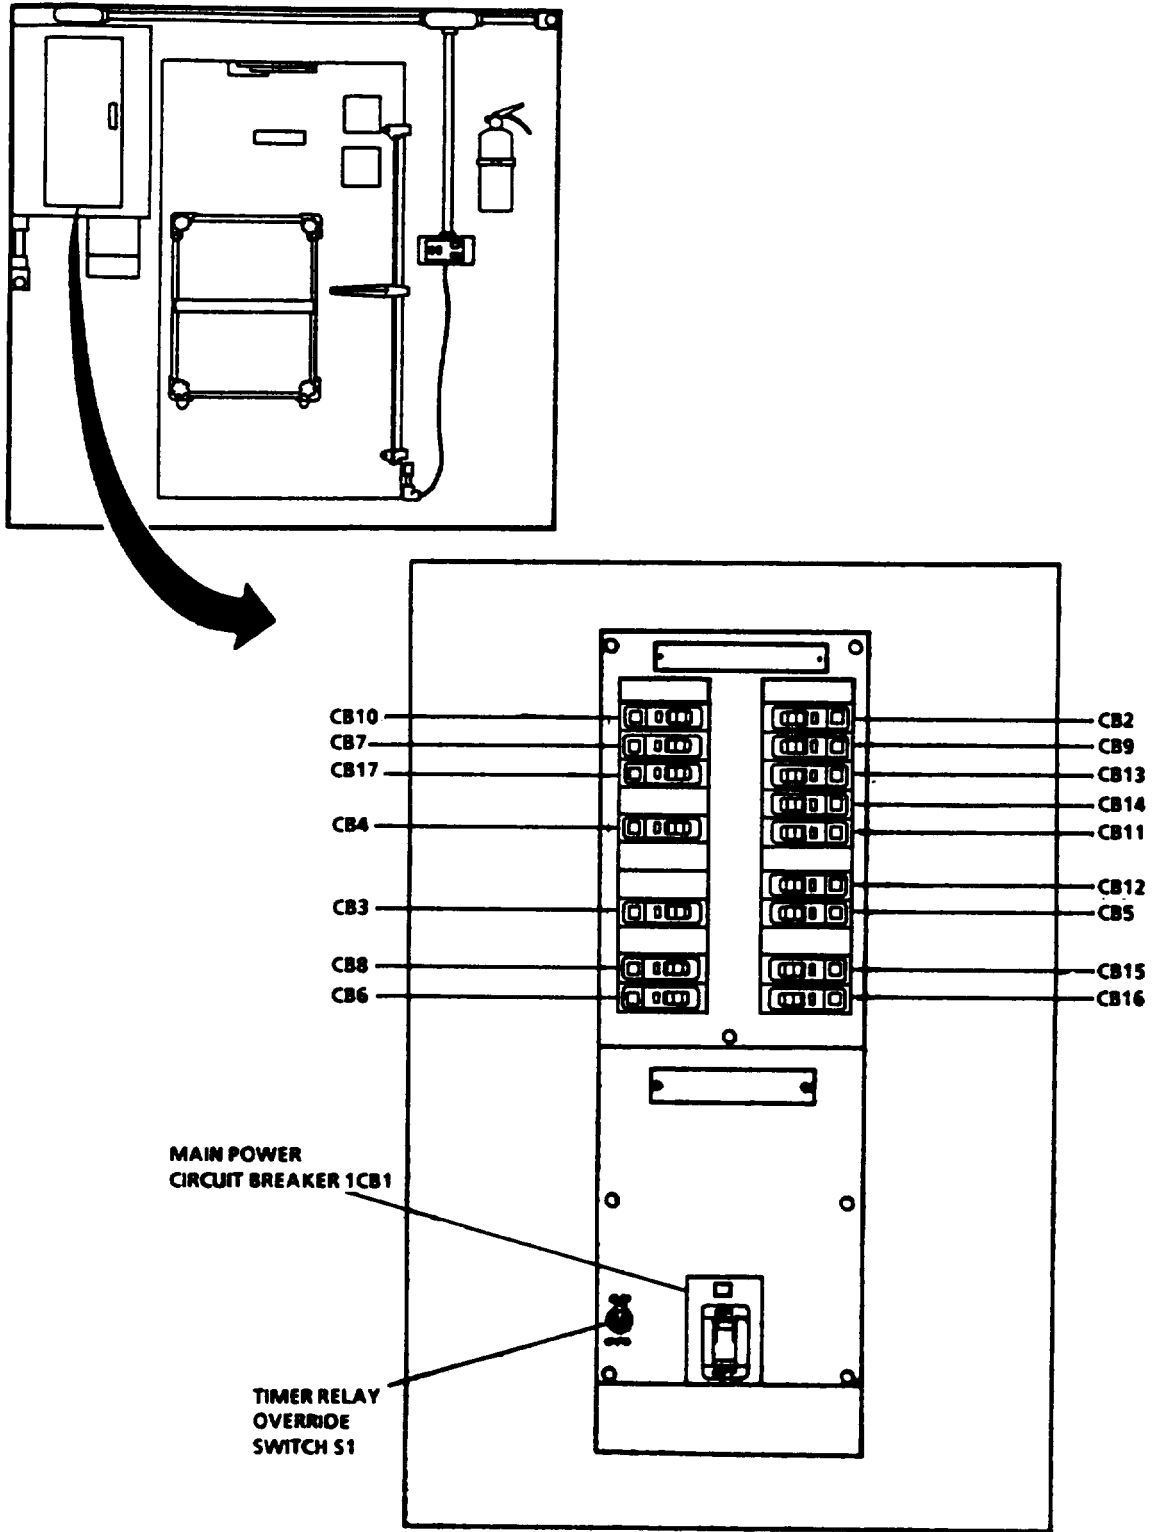

Figure 2-2. Panelboard Assembly
b. Interior Rear Wall. Figures 2-2 and 2-3 and Tables 2-2 and 2-3 list the controls and indicators located on the rear wall of the laboratory interior.